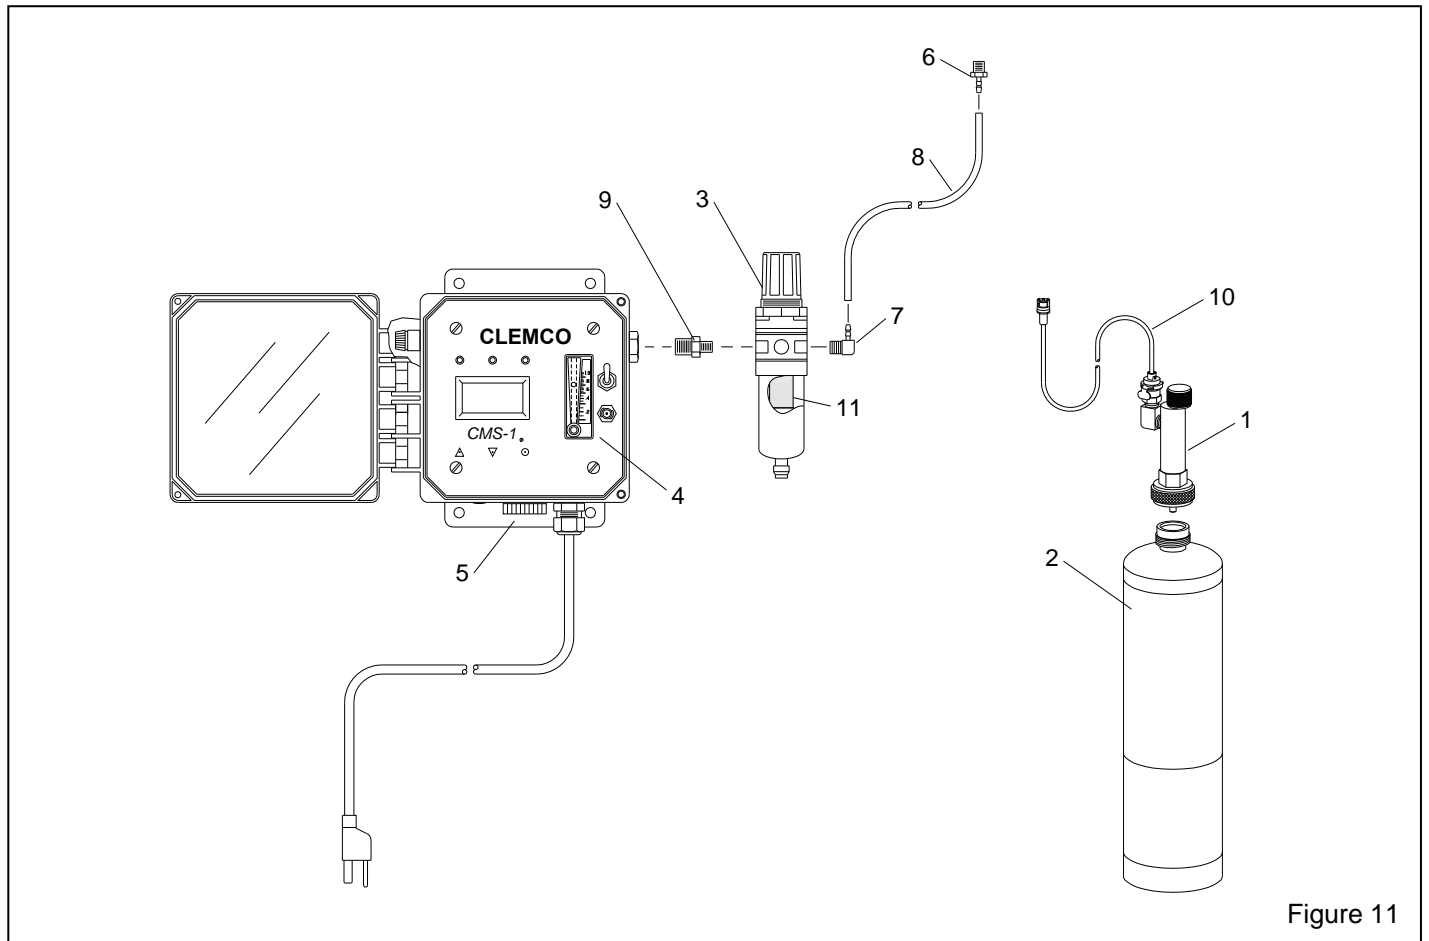

Figure 11
9.2 Replacement Parts – Figure 11